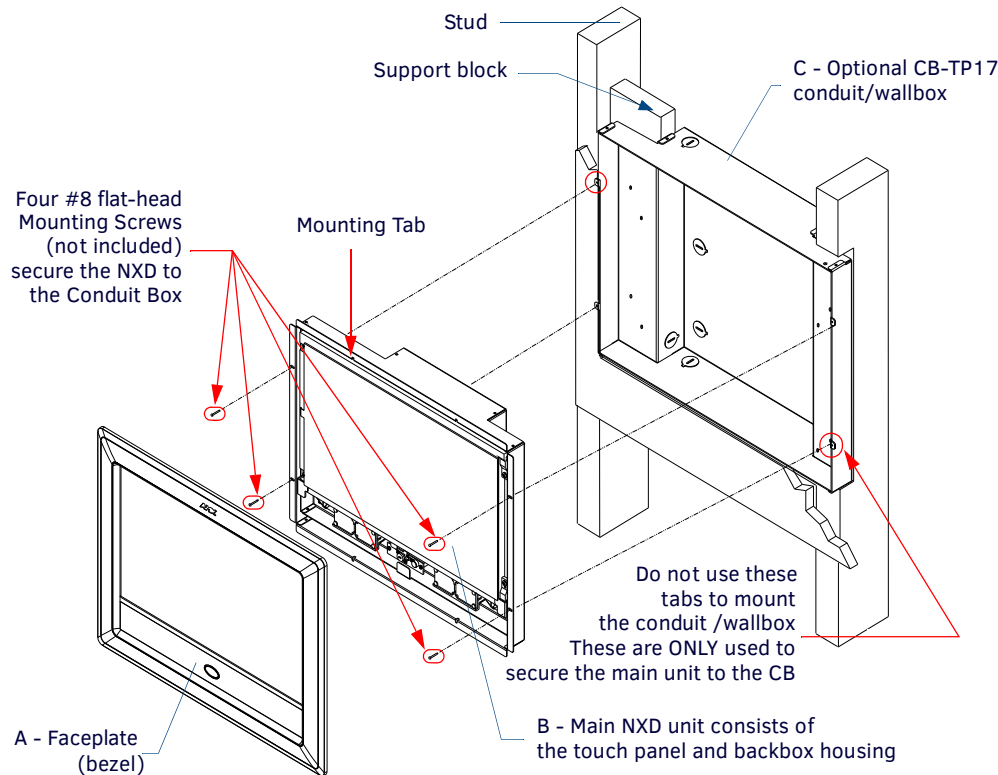

FIG. 56 Wall Mount panel installation configuration of a CB-TP17 in a pre-wall construction
1. Remove the magnetic faceplate/bezel (A in FIG. 56) from the main NXD unit (B in FIG. 56) by gripping the faceplate and pulling with gentle outward force.
6. Carefully slide the main NXD unit (B in FIG. 56) into the conduit box, so the Mounting Tab lies flush against the conduit box (C in FIG. 56).
7. Insert and secure four securing #8 flat-head Mounting Screws into their corresponding holes located along the sides of the NXD (FIG. 56). *These #8 screws are not included within the CB Installation Kit and must be provided by the installer.*
8. Place the magnetic faceplate (A in FIG. 56) back onto the main NXD unit (B in FIG. 56). Make sure to align the Microphone, Light, and PIR Motion sensor locations to their respective openings on the front bezel/faceplate.